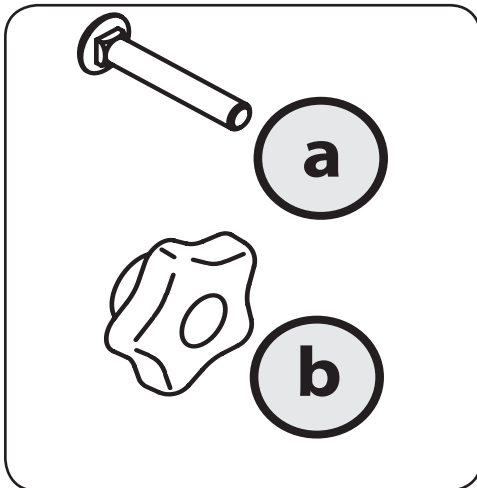

Figure 2-1
1. Remove the carriage screws (a) and star knobs (b) from the carton. See Figure 2-1.